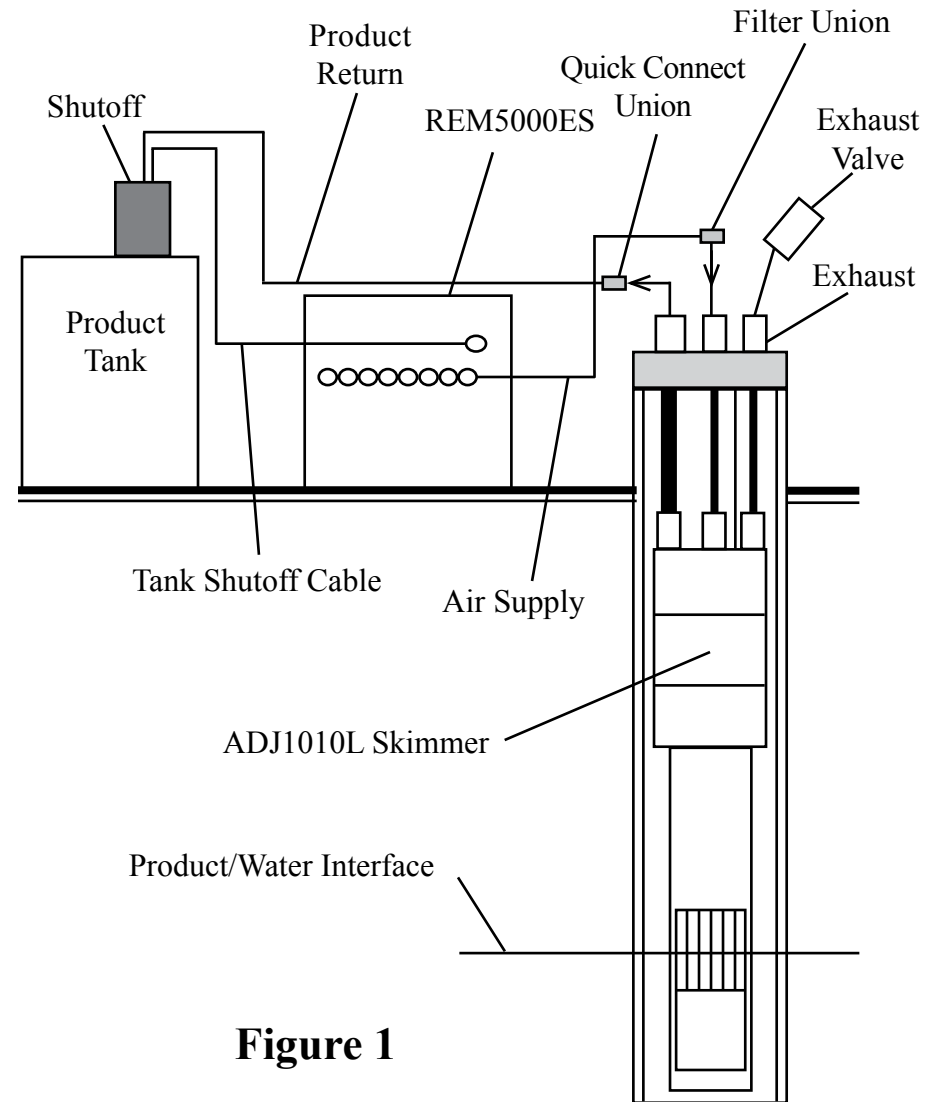
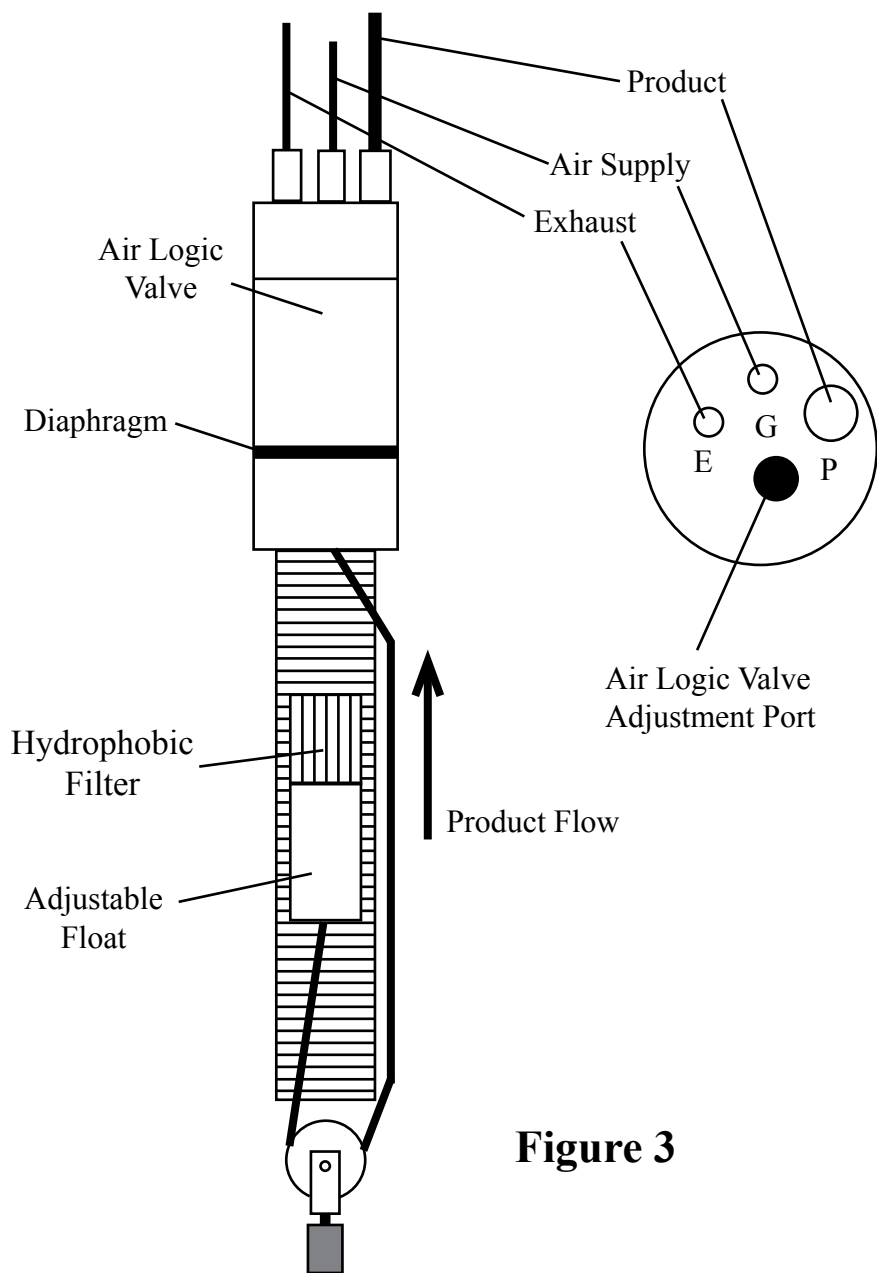

Figure 1
Figure 3
The system (Figure 1) relates to a floating LNAPL recovery system for wells four inches in diameter and larger. This system includes: an intrinsically safe ADJ1010L pneumatic Smart Skimmer, with an adjustable float (Figure 3), which removes LNAPL up to 200 feet deep; and a solar powered Control Station Model REM5000ES which operates up to 8 skimmers intermittently, records run time, and has a high level tank shutoff assembly.
STEP 2. Install holding tank shutoff assembly into holding tank (a 2” standard pipe inlet will be required in the holding tank). The level of product in the holding tank can be set by raising or lowering the liquid level float switch rod. Plug the high level shutoff switch cable connector into the left end of the controller (Figure 1).
STEP 6. Position the skimmer and well cap on the ground near the well. **NOTE:** If the skimmer is over 60 feet deep, use a vented design skimmer. Cut a length of 3/8" OD air supply tubing to cover the distance from the top of the well down to water/product interface, plus 5 feet. Slide enough tubing through the well cap and attach the end of the tubing to the top of the skimmer tube fitting labeled "G" (Figure 3). If the product thickness is greater than 1 foot, position the center of the skimmer screen 1 foot below top of product. If the product thickness is less than 1 foot, position the center of the skimmer screen at the water/product interface.
STEP 7. Cut a length of 1/2" OD product tubing same length as the air supply line. Install 1/2" OD product tubing through the well cap tube fitting labeled "P" (Figure 3). Slide enough tubing through the well cap and attach the end of the tubing to the top of the skimmer tube fitting labeled "P". **CAUTION:** Do not kink the tubing.